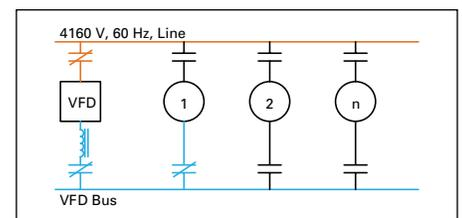

Figure 10.4-19. VFD Running Motor #1
- PLC opens bypass contactor (**Figure 10.4-19**)